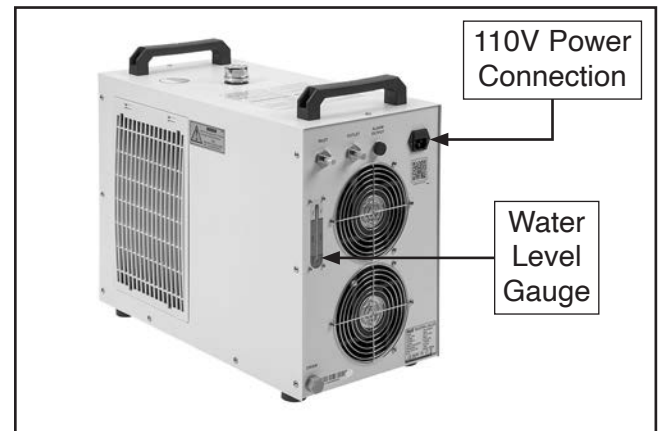

Figure 18. Water level gauge location.
7. Connect power cord to 110V power connection on water chiller (see **Figure 18**).
8. Connect water chiller system to power and turn **ON**. Allow water to cycle for one minute and continue filling reservoir with distilled water until water level is in green area on water level gauge (see **Figure 18**).